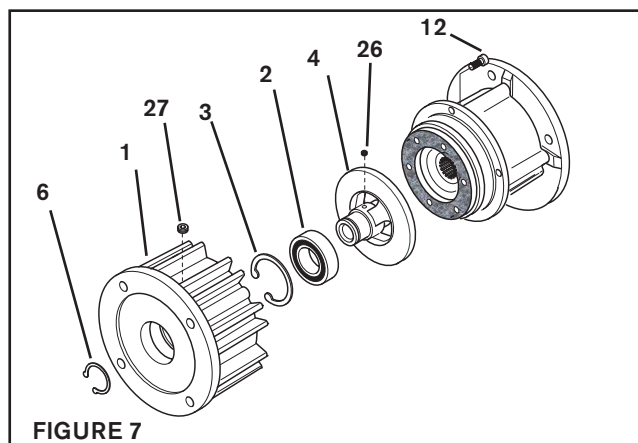

FIGURE 7
If an Input Unit is installed on the FMCE, it must be removed before servicing the FMCE. Remove the Plug (Item 27) and loosen the Set Screw (Item 26) to release the FMCE from the Input Unit (See Figure 7).
1. Remove the four Socket Head Cap Screws (Item 12) and separate the two halves of the FMCE (See Figure 7).
2. Remove the Retaining Ring (Item 6) (See Figure 7).
3. Press the Drive Disc (Item 4) out of the Bearing (Item 2) and the Housing (Item 1) (See Figure 7).
4. Remove the Retaining Ring (Item 3) (See Figure 7).
5. Fully supporting the Housing (Item 1), press the old Bearing (Item 2) out of the Housing (Item 1) (See Figure 7).
6. Clean the bearing bore of the Housing (Item 1) with fresh safety solvent, making sure all old Loctite® residue is removed (See Figure 7).
7. Apply an adequate amount of Loctite® 680 to evenly coat the outer race of the new Bearing (Item 2) (See Figure 7).
8. Carefully align the outer race of the new Bearing (Item 2) with the bore of the Housing (Item 1) (See Figure 7).
9. Supporting the Housing (Item 1) and pressing on the outer race of the new Bearing (Item 2), press the new Bearing into the Housing (See Figure 7).
10. Reinstall the Retaining Ring (Item 3) (See Figure 7).
11. Support the inner race of the new Bearing (Item 2) and press the Drive Disc (Item 4) into the new Bearing and Housing (Item 1) (See Figure 7).
12. Reinstall the Retaining Ring (Item 6) (See Figure 7).
13. Apply a drop of Loctite® 242 to the threads of the Socket Head Cap Screws (Item 12) (See Figure 7).
14. Slide the Housing (Item 1), Bearing (Item 2), and Drive Disc (Item 4) into the FMCE and reinstall the four Socket Head Cap Screws (Item 12) (See Figure 7).